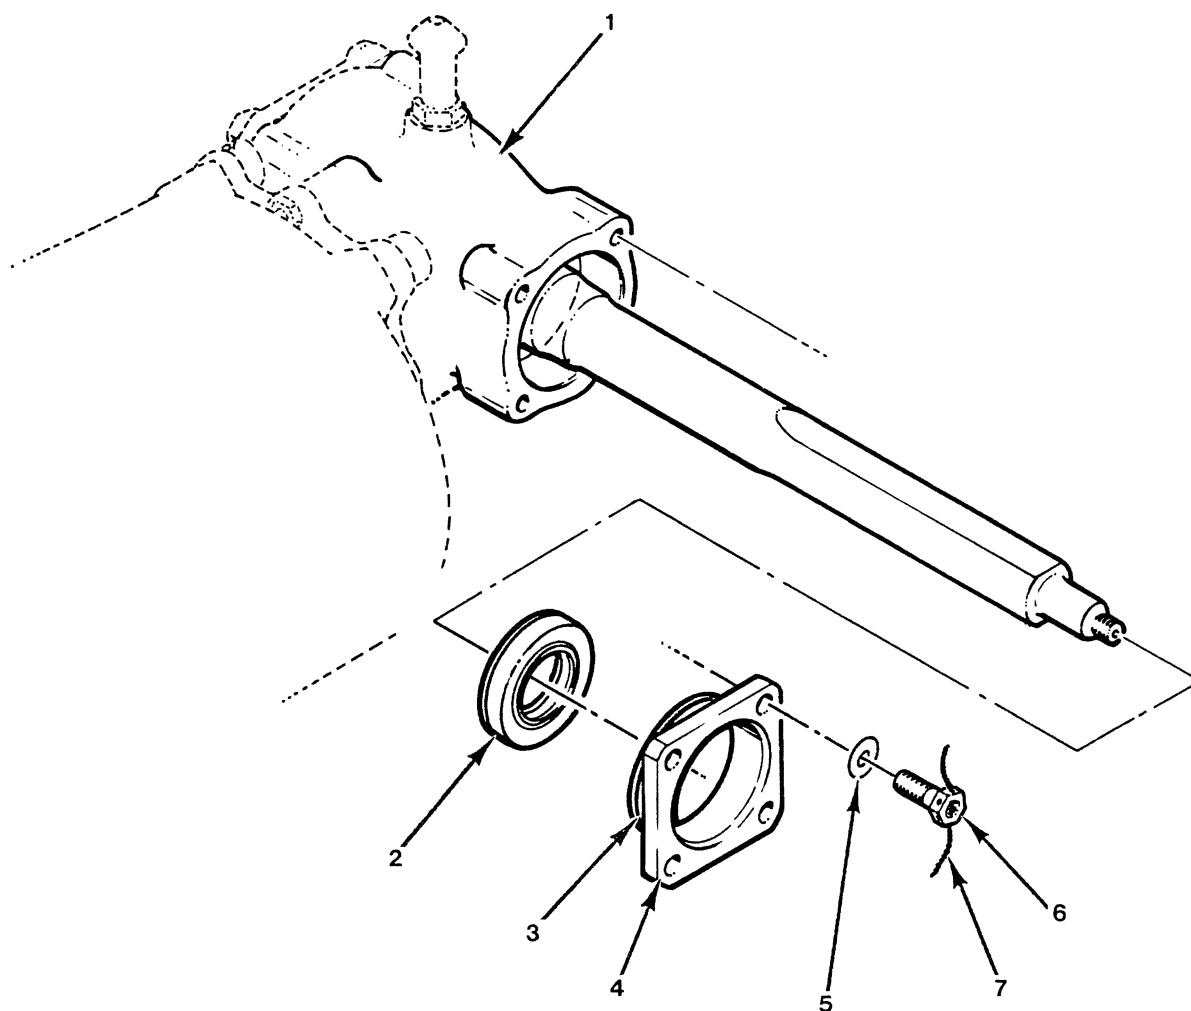

FIGURE 7-13 TAIL ROTOR GEARBOX OUTPUT SHAFT SEAL REPLACEMENT
**7.440 Tail Rotor Gearbox Output Shaft Seal Replacement (ref Figure 7-13)**